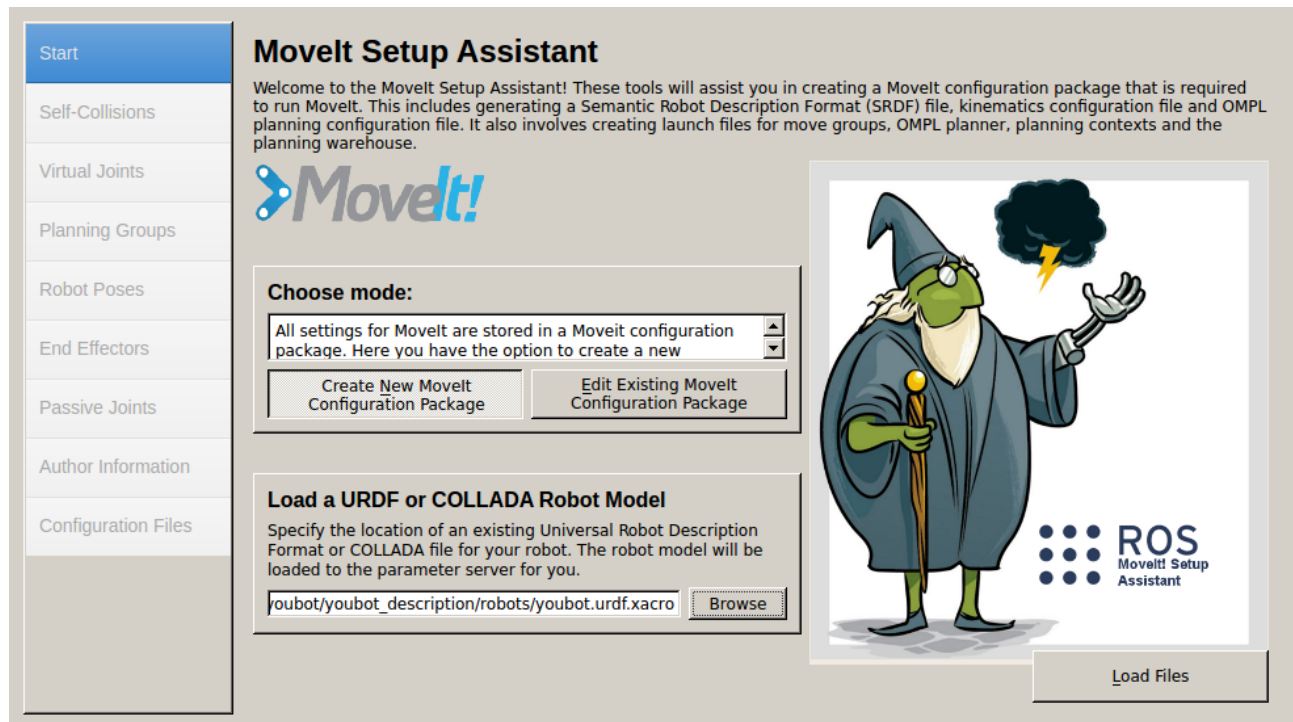

Figure 3: Choose mode and select URDF
- Select the Create New MoveIt! Configuration Package button and browse for the file called `youbot.urdf.xacro` in `youbot_description/robots/youbot.urdf.xacro`. This file includes the URDF file you edited in task 2.1, your window should look like shown in figure 3: